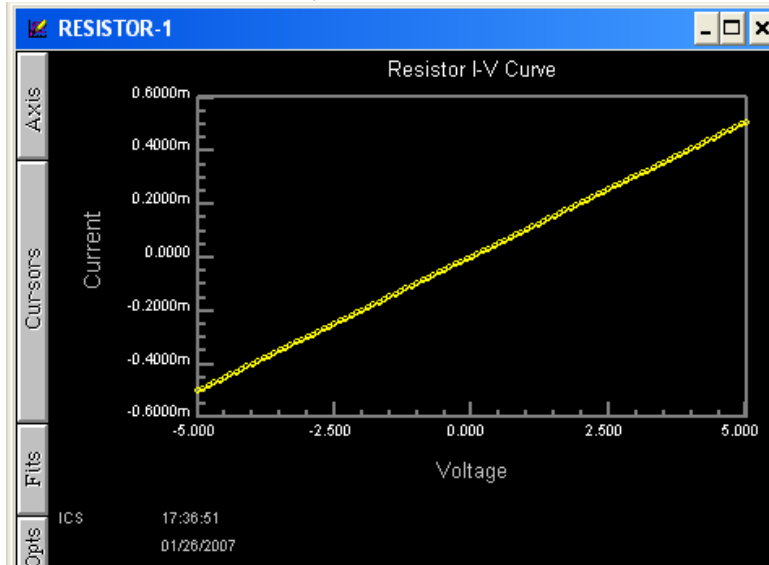

Fig. 9: I-V curve of a resistor
15. The resistor I-V curve is as expected: linear, with a slope = $1/R$ (Fig. 9). If you're going to print this graph, please help us conserve printer toner by changing the plot colors. Go to **Setup** → **Colors...** from the menu bar, and select **Monochrome**.